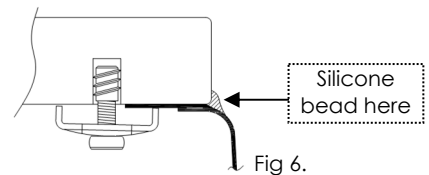

Fig 6.
- Place the worktop, sink and tap carefully onto the kitchen carcasses. Where possible apply a 2nd bead of silicone around inside of the sink and worktop joint as shown in Fig. 6. Any excess silicone can be cleaned away using a proprietary silicone cleaner. Allow the silicone to dry.
Tighten the clips in an order similar to fig. 6 to ensure the sink does not skew or rotate whilst it is fixed. Do not use an electric screwdriver, this will over tighten the screws and could damage the clips.